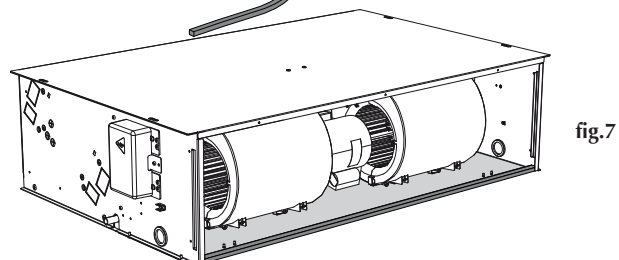

fig.7
- Re-mount the ventilation compartment closure panel (fig.7)